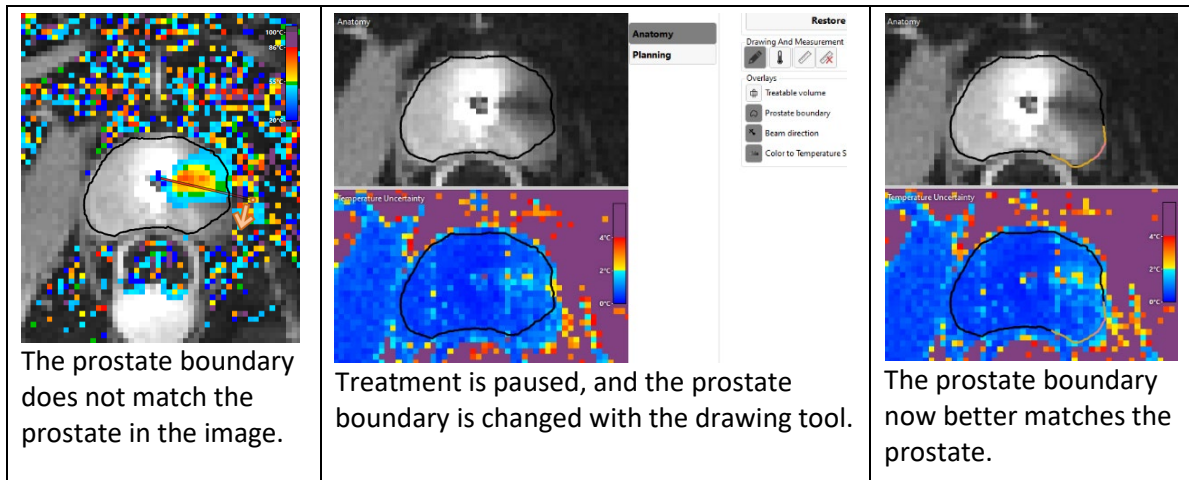

Figure 54: Editing the prostate boundary
3. Click the drawing tool. The TDC displays a new pane showing the prostate boundary contour and the temperature uncertainty for the selected slice (*Figure 54*).